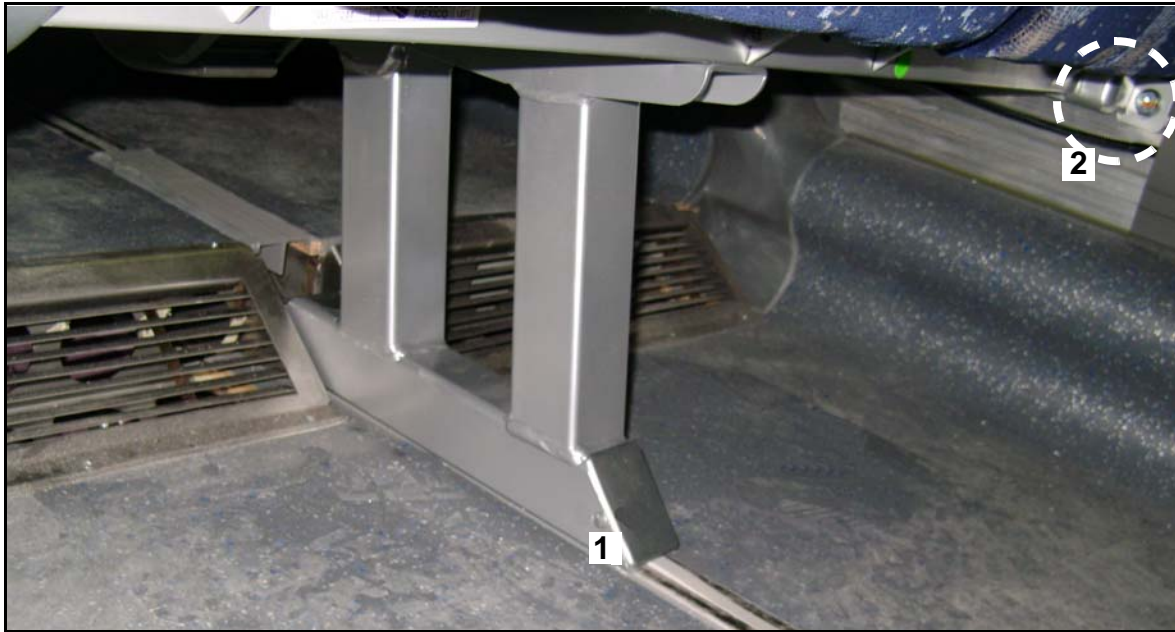

Figure 1. Front view of second row passenger seat base.
3. Locate the cover plate at the front of the passenger seat base. Carefully pull to remove the two (2) snap fasteners that secure the cover plate to the seat base (refer to Figure 1). Remove and retain the snap fasteners and the cover plate to be re-installed at a later step in this procedure.
5. Locate the passenger seat mounting hardware on the cabin sidewall (refer to Item 2 / Figure 1). Remove and retain the nut.
Item	Figure 1 Description